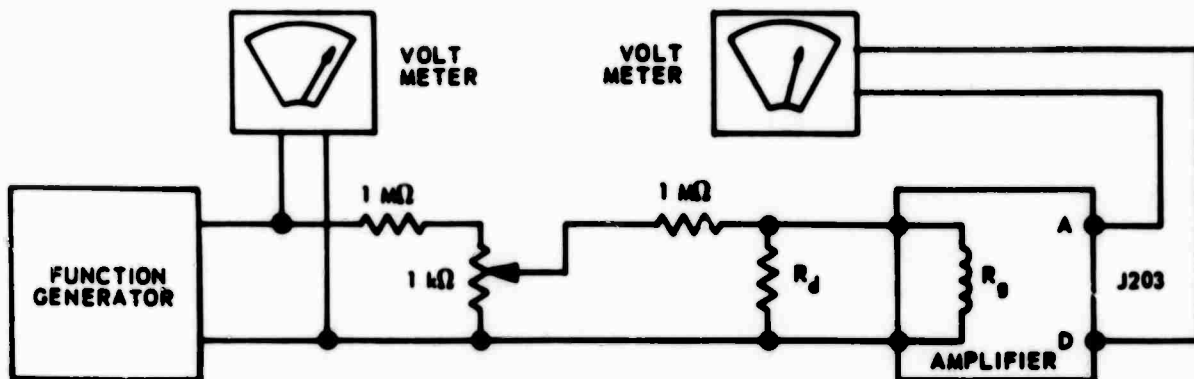

Figure 5. Test setup for determining amplifier frequency response and voltage gain
b. Connect a low frequency (0.1 to 0.01 Hz) function generator and divider network to the amplifier as shown in figure 5.